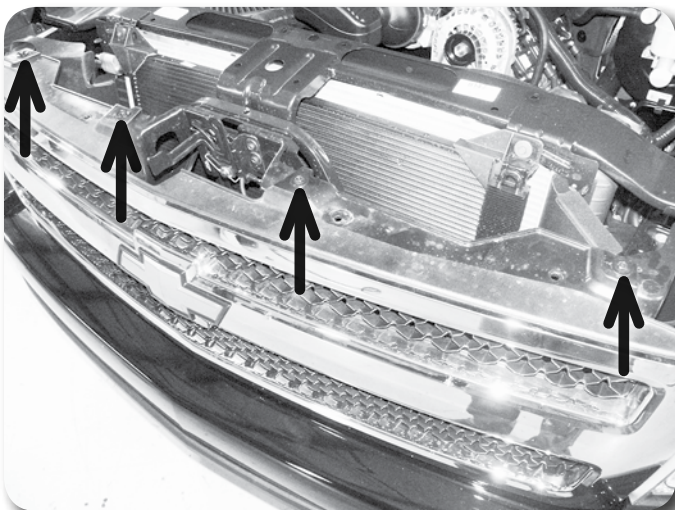

Figure 2a
2. Remove the 4 bolts mounting the top of the grill to the core support **Figure 2a**. Pull out on the grill (starting at the bottom) to release the retaining clips. Remove the grill from the vehicle. GMC vehicles only: remove the 2 bolts that attach the upper bumper cover to the inner fenderwell. Pull out (away from the center of the vehicle) on the cover to release the 2 plastic tabs that interlock into the bumper cover **Figure 2b**. Remove bumper and bumper cover as one assembly.